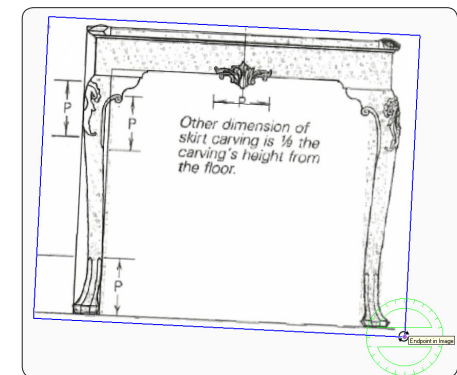
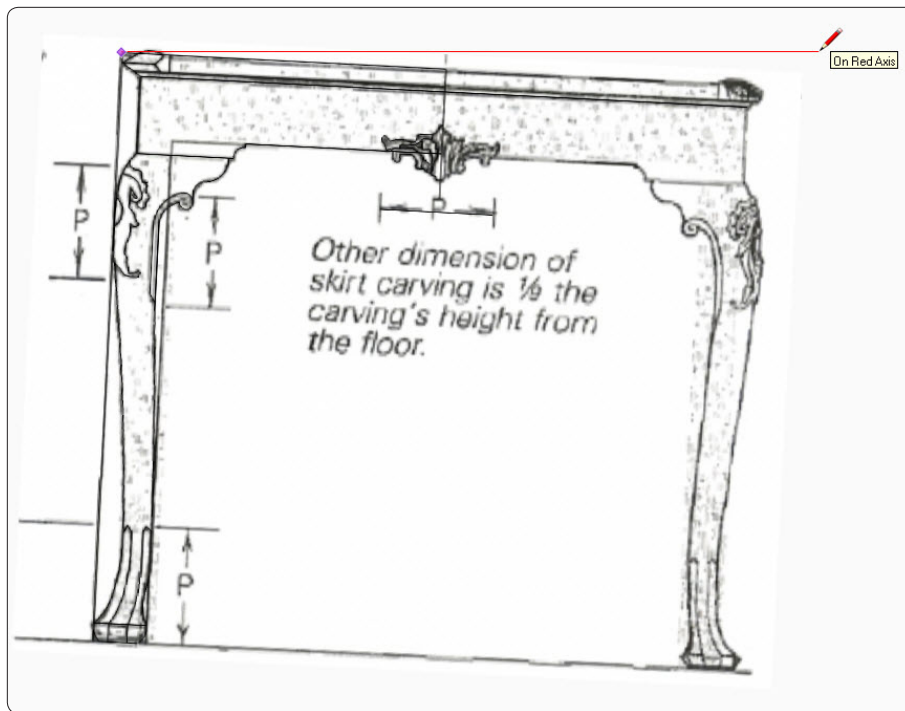

Figure 3. The raw import, before it has been resized and repositioned.
Figure 4. To align the image, draw a reference line on-axis.
Step 2 The image will appear in SketchUp, with one corner attached to the cursor, as shown in Figure 3. Click the mouse to anchor the image at the desired location. Drag the mouse upward
ner. I've exaggerated the skew in Figure 3. To straighten the image and position it on-axis, you need to draw a reference line along a SketchUp axis, beginning at the end of a long edge in the image. As Figure 4 shows, I've chosen to use the top edge as the image line to adjust, so I've drawn a line along the red axis.